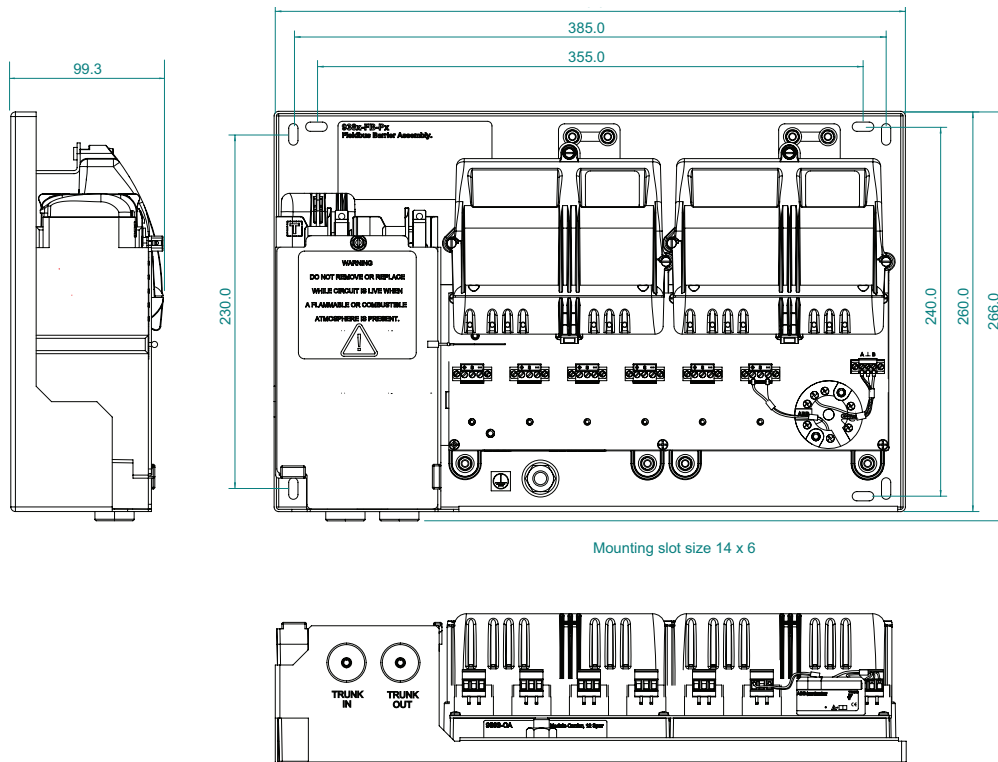

Figure 3.1 - Dimensions and mounting hole positions for the assembly (9387-FB-Px-R)
See Figure 3.1 for the dimensions, fixing locations and cable gland positions.
- b) The assembly can be mounted on any suitable structure via the mounting holes in the corners - see Figure 3.1 for details.
Either define hole or stud positions based upon the dimensions given in Figures 3.1, or use the baseplate as a template. Prepare the fixings being used, then attach the assembly.